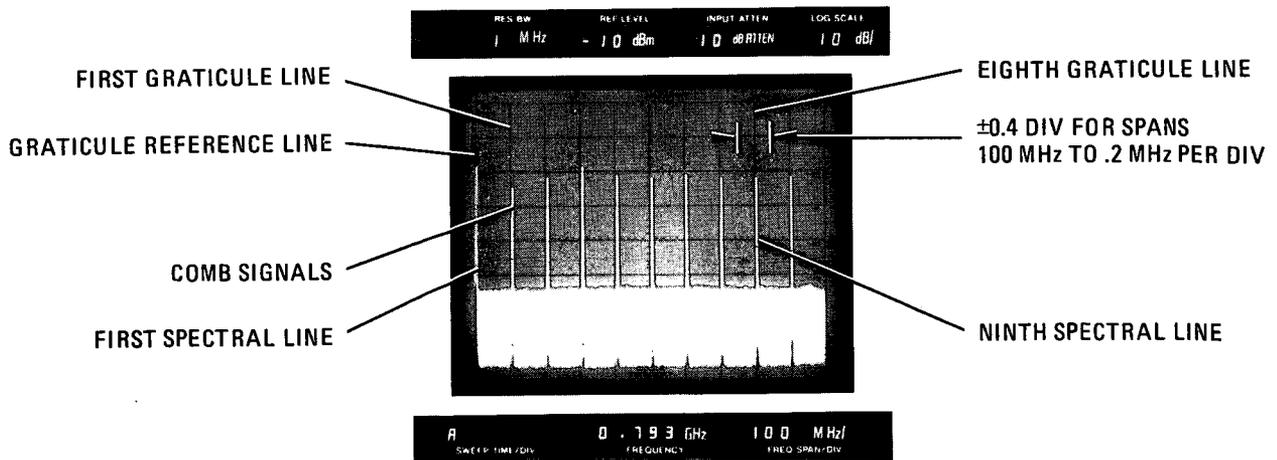

Figure 2-4. Span Width Accuracy Measurement
- d. Note position of ninth spectral line (comb tooth). It must be on eighth graticule line ± 0.4 division. (See Figure 2-4).